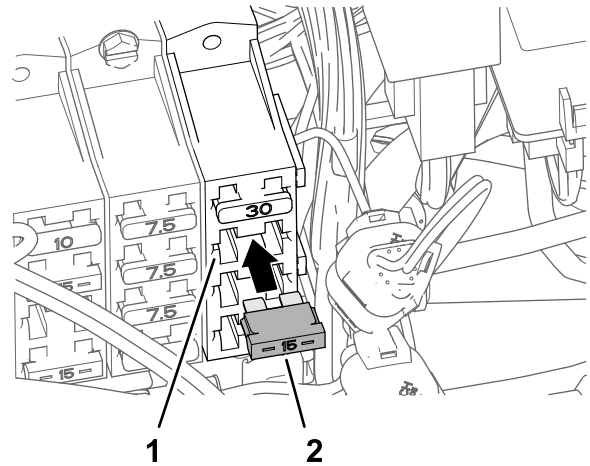

Figure 191
6. Insert the fuse (15 A) into fuse-socket 2 of fuse block 3 until the fuse is fully seated (Figure 191).